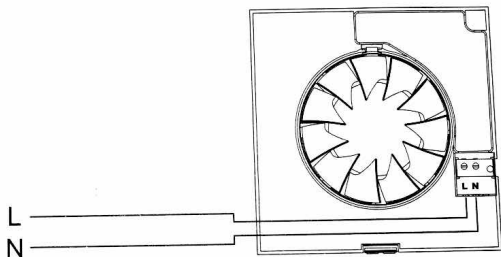

Fig.9
**Case 1:** Automatic operation (fig.9)
Models provided with a PIR (passive infra-red) detector. The unit starts automatically when a movement is detected with a maximum distance of 4 metres (fig.9).